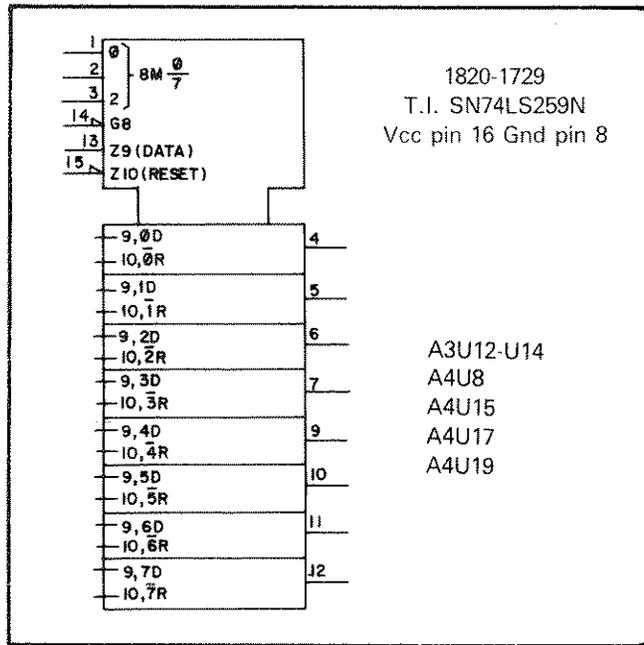

Figure B-20. Addressable Latch
**Addressable Latch.** Figure B-20 shows an eight-bit addressable latch. The mode inputs (M) determine which latch is loaded when the G input is active. Data enters via the Z9 input, and is internally connected to the addressed latch. For example, consider the first latch. 9,0D indicates that data (D) from Z9 is loaded when in mode 0. 10,0R indicates that reset (R) from Z10 resets the latch when not in mode 0.